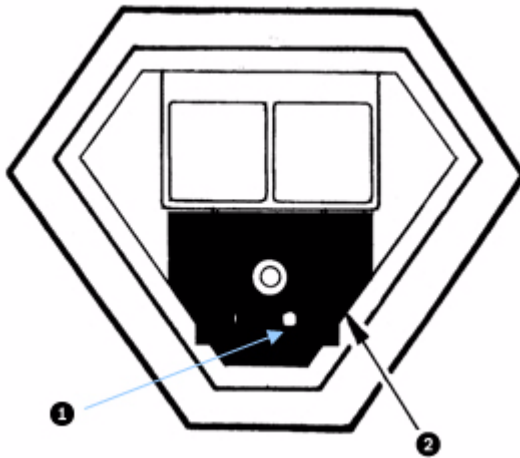

Figure 3.8 Camera Re-assembly
4. Power up the camera and check its operation. Refer to *Figure 3.8* below.